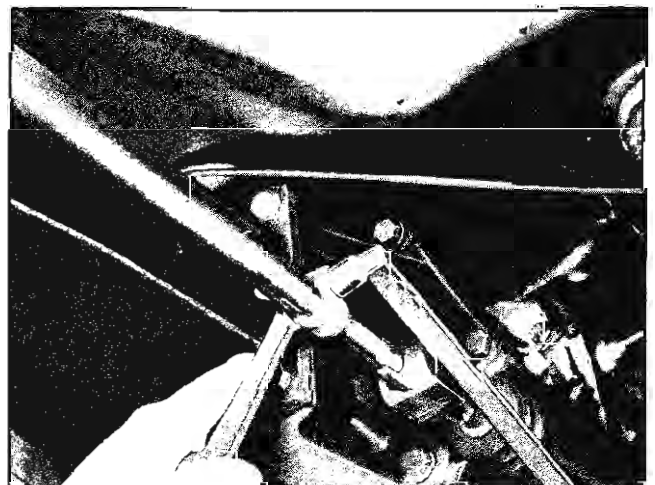

Fig. 7B-1 Control Rod Clamp Nut
2. Install manual shift shaft and control rod coupling boot (Fig. 7B-2).
3. Install control rod coupling on manual shift shaft and secure with clevis pin and cotter pin (Fig. 7B-2).